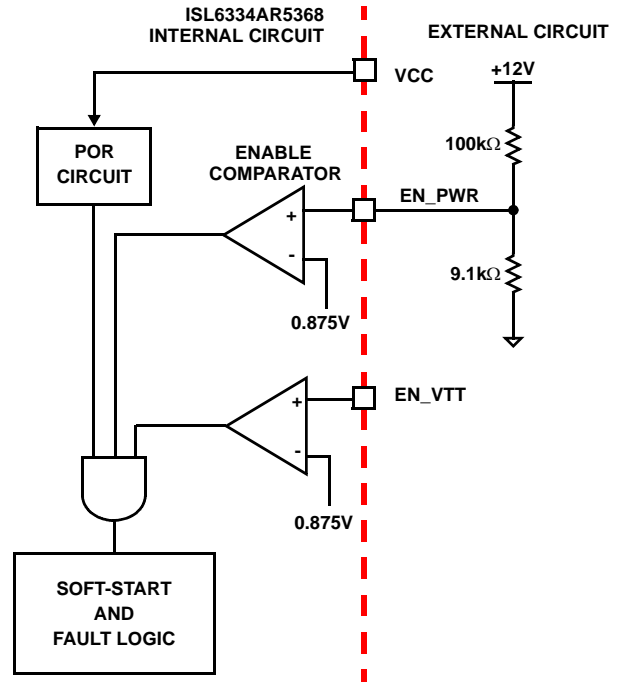

FIGURE 8. POWER SEQUENCING USING THRESHOLD-SENSITIVE ENABLE (EN) FUNCTION
2. The ISL6334AR5368 features an enable input (EN\_PWR) for power sequencing between the controller bias voltage and another voltage rail. The enable comparator holds the ISL6334AR5368 in shutdown until the voltage at EN\_PWR rises above 0.875V. The enable comparator has about 130mV of hysteresis to prevent bounce. It is important that the driver reach their POR level before the ISL6334AR5368 becomes enabled. The schematic in Figure 8 demonstrates sequencing the ISL6334AR5368 with the ISL66xx family of Intersil MOSFET drivers, which require 12V bias.